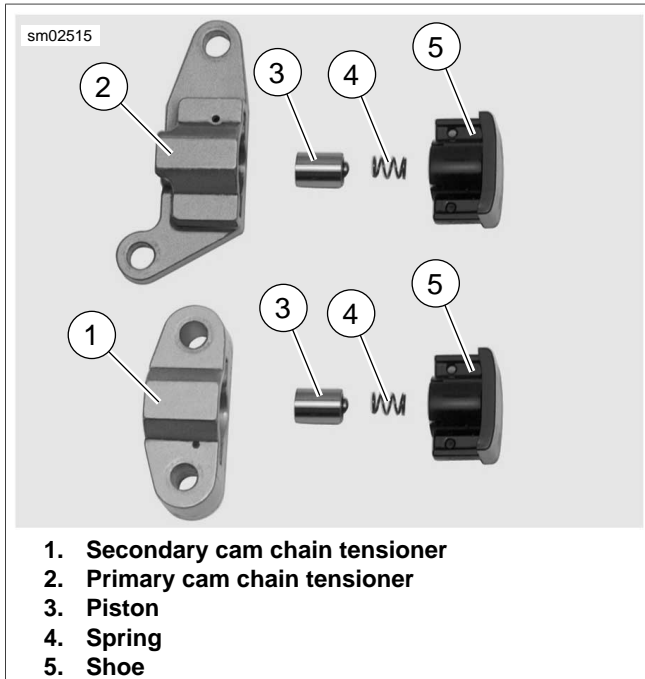

Figure 3-112. Cam Chain Tensioner Assemblies
- See Figure 3-112. Be sure primary and secondary cam chain tensioners are assembled as shown. If assembled incorrectly, tensioners will not function properly.